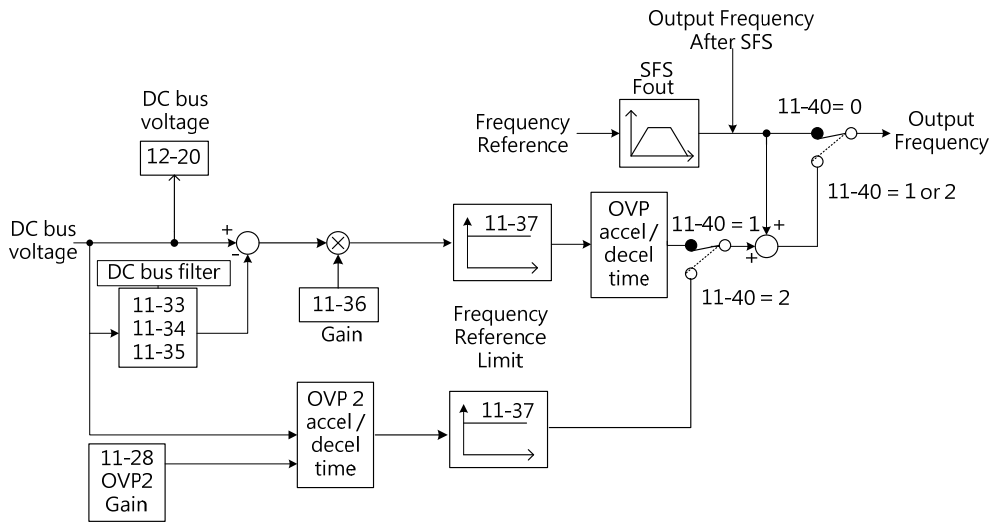

Figure 4.3.91 OVP Operatrion
- When the speed reference is reduced, the motor will start to decelerate. When the inverter is operating at a fixed output frequency and excessive regenerative energy back to the inverter is detected, the inverter will accelerate the motor in order to reduce the DC-bus voltage. Refer to figure 4.3.91.